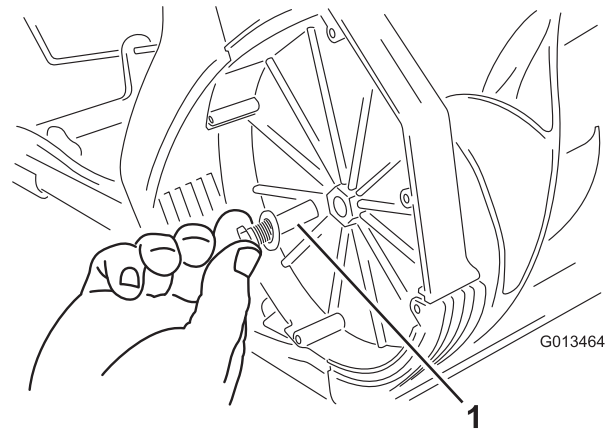

Figure 11
1. Screw (2)
2. Remove the rotor pin (Figure 11).